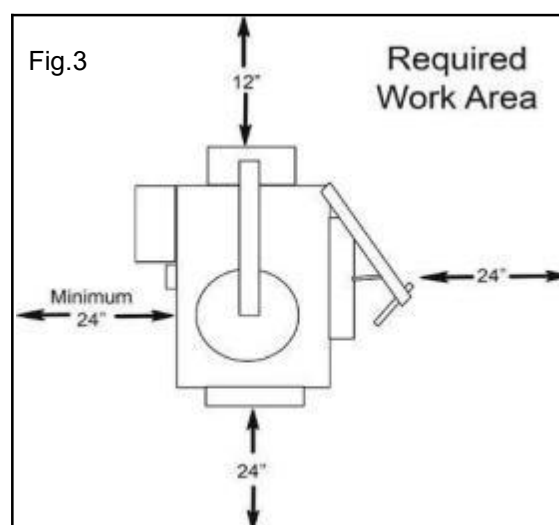

Fig.3
- Equipment installation location should be at least up to the standard shown in Fig.3 , which can ensure the normal operation and the machine parts are not subject to any restrictions. The tire changer is forbidden to use in explosive gas.